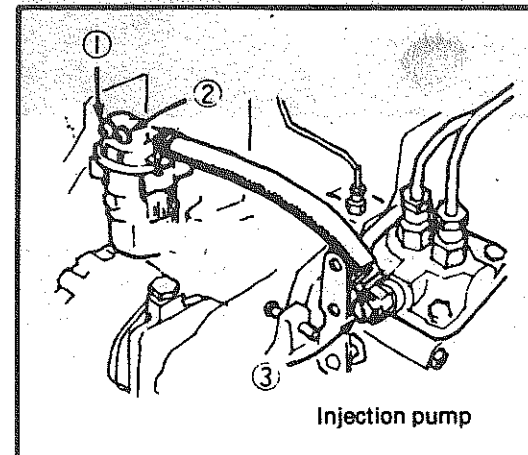

Fig. 8
To purge the air from the fuel system, first loosen the fuel filter ventilation screw (1) and re-tighten the screw after bubbling ceases. Thereafter purge the air by loosening the fuel filter and injection pump ventilation screws (2) and (3), in this order, and then re-tighten the screws (Fig. 8).